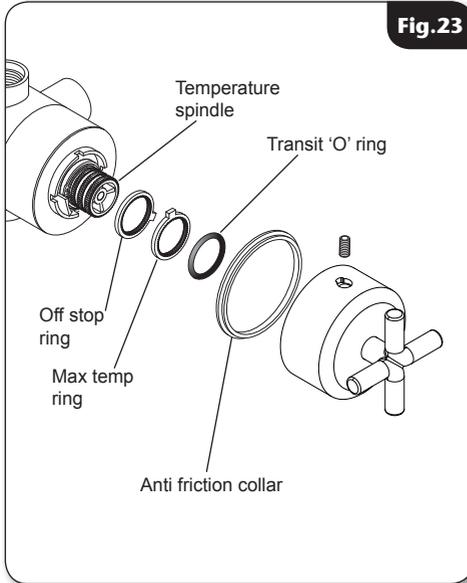

Fig.23
- To adjust the maximum temperature setting, remove the temperature control (**fig.23**).
- Remove the transit 'O' ring from the temperature spindle (*this is fitted to secure the two rings whilst in transit and can be discarded*) (**fig.23**).